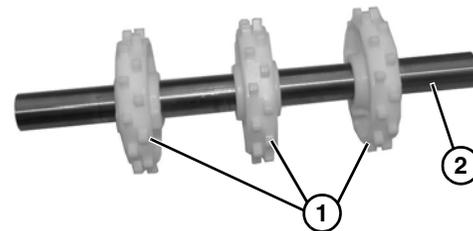

Figure 61
2. Remove three sprockets (**Figure 61, item 1**) off of shaft (**Figure 61, item 2**).